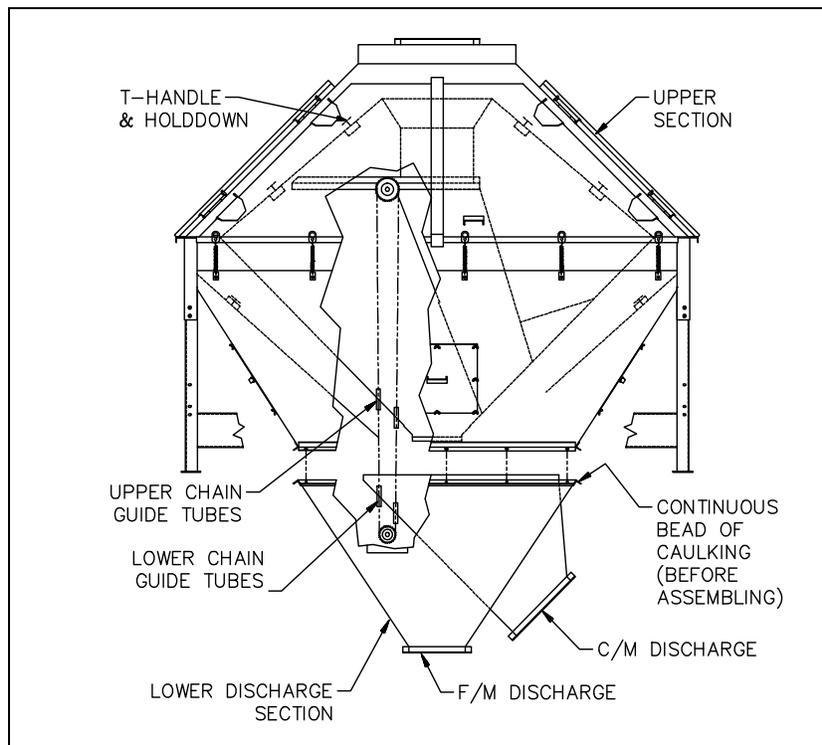

Figure 3-2, Orientation of Screener's Upper and Lower Sections
When assembling a Model PC-16000, PC-25000, or PC-40000 Screener, Intersystems recommends applying a continuous bead of caulking along the joint of the upper and lower sections as shown in **Figure 3-2**.
THE OFFSET MATERIAL OUTLET AND CABLE GUIDE TUBES IN THE LOWER SECTION MUST ALIGN WITH THE MATERIAL PASSAGE AND THE GUIDE TUBES IN THE UPPER SECTION AS SHOWN IN **FIGURE 3-2**. DAMAGE WILL RESULT IF THE SECTIONS ARE FORCED TOGETHER WHILE THEY ARE INCORRECTLY ORIENTED.
These larger size screeners employ a chain assembly and sprockets to connect the upper and intermediate gate control shafts. See **Figure 3-2** and **3-8**.
- B. Route the chain assembly around the sprockets and through the guide tubes as shown in **Figures 3-2 and 3-8**. The chain tightener must be positioned to the right of the sprocket and 2" below the centerline of the upper sprocket.